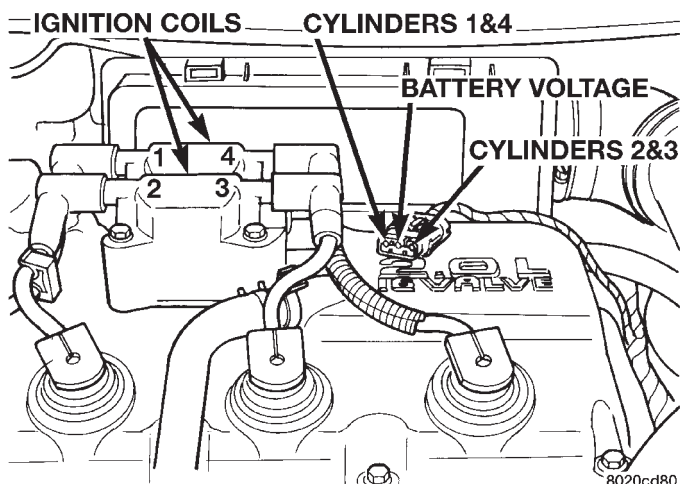

Fig. 23 Ignition Coil Engine Harness Connector
(1) Check battery voltage. Voltage should approximately 12.66 volts or higher to perform failure to start test.
(2) Disconnect the harness connector from the coil pack (Fig. 23).
(3) Connect a test light to the B+ (battery voltage) terminal of the coil electrical connector and ground. The B+ wire for the DIS coil is the center terminal. **Do not spread the terminal with the test light probe.**
(4) Turn the ignition key to the **ON position**. The test light should flash On and then Off. **Do not turn the Key to off position, leave it in the On position .**